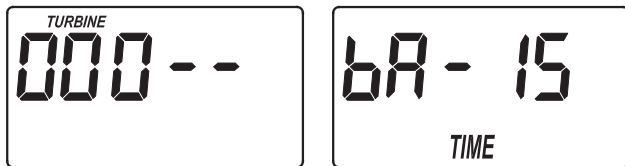

FIG. 23
1. Press and hold for 3 seconds the SELECT button, until the display shows "000 - -", then press the SELECT button again to display the backwash time adjust screen (See Figure 23).